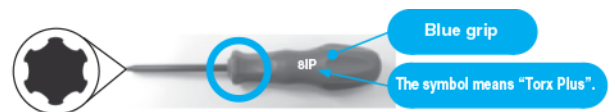

Fig. 2 "Torx Plus" Wrench (For MEW)
- 1) Ref. to Fig. 2 for "Torx Plus" Wrench. (Blue grip)